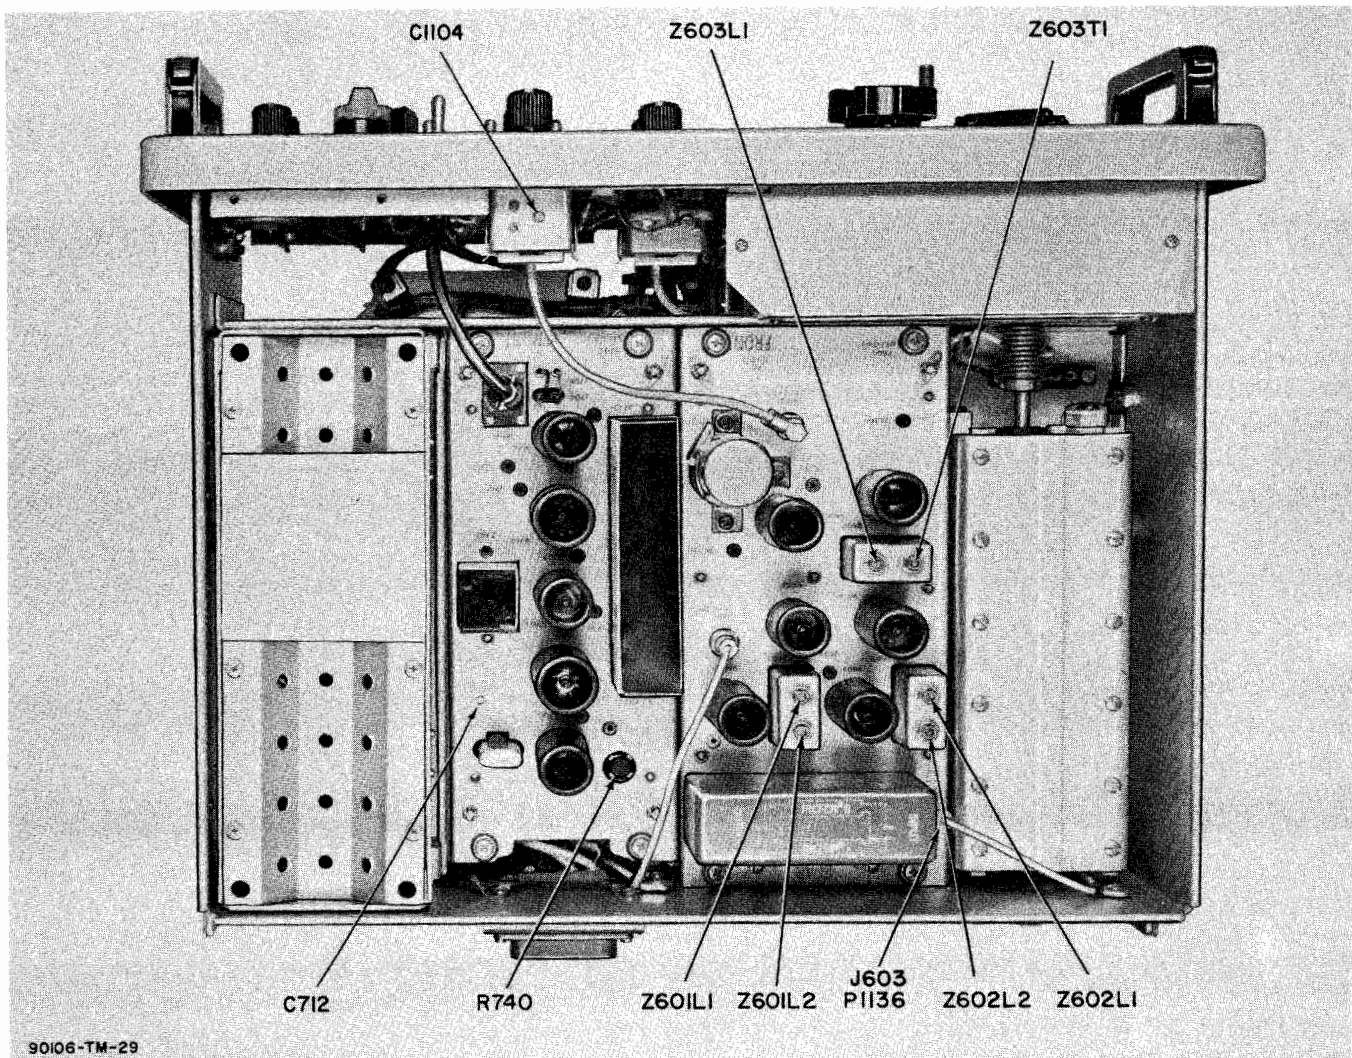

Figure 6-1. Alignment Controls, Top View
c. TEST SET-UP. - The signal injection points and signal generator settings are given in each step. Additional receiver control settings are given where necessary with each step. The location of each alignment control on the receiver is shown in figures 6-1 and 6-2. The location of signal injection points are shown in figures 5-1, 5-2 and 5-3.
(3) Adjust the signal generator output level to produce a -1.0 volt indication on the electronic multimeter.
(4) Adjust Z603L1 (see figure 6-1) for a maximum indication on the electronic multimeter.
(5) Remove the 680 UUF capacitor and adjust Z603T1 (see figure 6-1) for a maximum indication on the electronic multimeter.
(7) Adjust Z602L2 (see figure 6-1) for a maximum indication on the electronic multimeter.
(8) Remove the 680 UUF capacitor and adjust Z602L1 for a maximum indication on the electronic multimeter.
(10) Adjust Z601L2 (see figure 6-1) for a maximum indication on the electronic multimeter.
(11) Remove the 680 UUF capacitor and adjust Z601L1 (see figure 6-1) for a maximum indication on the electronic multimeter.
(5) Connect a set of headphones to one of the PHONES jacks on the front panel of the receiver.
(6) Adjust C1104 for a zero beat (see figure 6-1).
(2) Disconnect P1136 from J603 (see figure 6-1).
(3) Set CAL switch to ON.
(4) Adjust C712 (see figure 6-1) for a 200.000 KC indication on the frequency meter set.
(6) Adjust R740 (see figure 6-1) for a 20.000 KC indication on the frequency meter set.
(7) Readjust R740 until the frequency meter indicates a change in frequency. Note the position of the slot on R740.
(8) Readjust R740 in the opposite direction from step (7) until the frequency meter set indicates a change in frequency from 20 KC. Note the position of the slot on R740.
(9) Set R740 midway between the positions noted in steps (7) and (8).